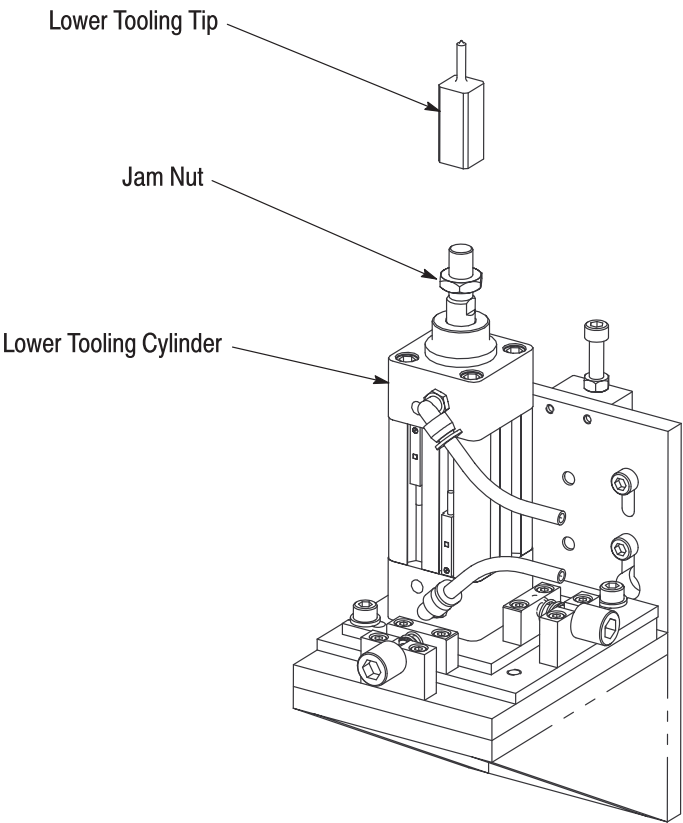

Figure 7
### 3.3. Installing Lower Tooling Tip onto Machine (See Figure 7)
3. Align the lower tooling tip with the proximity switch bracket as shown in Figure 7, then tighten the jam nut onto the cylinder shaft to lock the lower tooling tip into position.
4. Using the hardware, attach the proximity switch bracket to the lower tooling cylinder as shown in Figure 7.
3. Remove the hardware, then remove the proximity switch bracket from the lower tooling cylinder (refer to Figure 7).